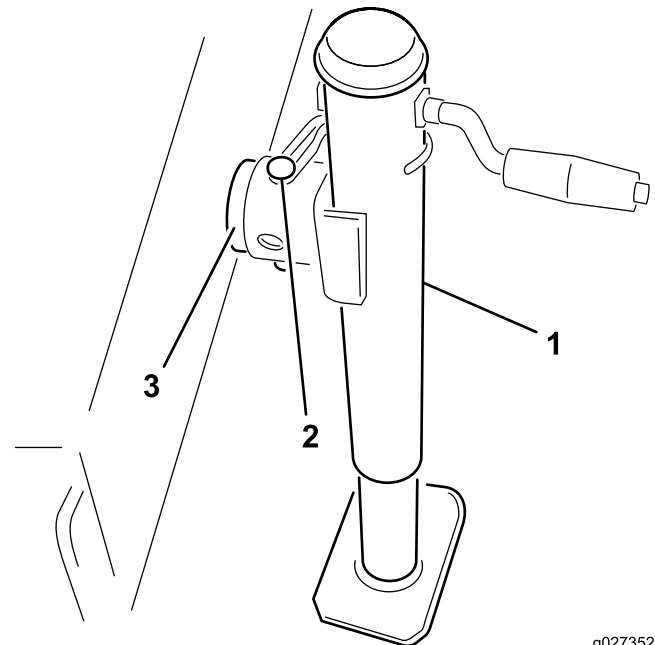

Figure 5
2. Insert the jack onto the frame pin and secure it with the pin (Figure 5).